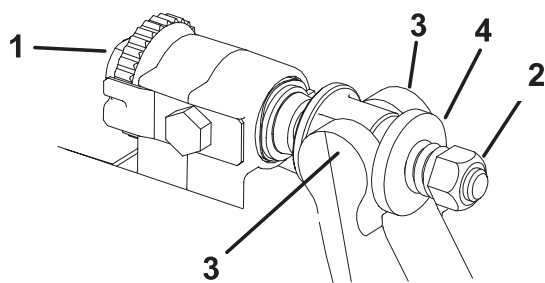

Figure 21
1. Turn bedbar adjuster screws, counterclockwise, to back bedknife away from reel (Fig. 21).
2. Back out the spring tension nut, until the washer is no longer tensioned against the bedbar (Fig. 21).